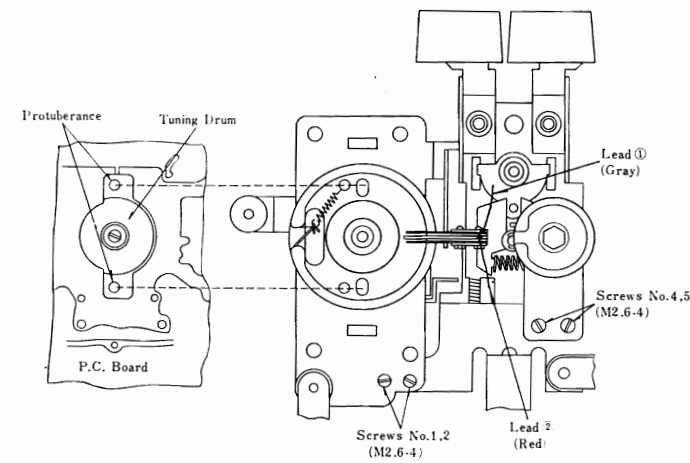

Fig. 4
2. Unsolder leads, ①, ②, as illustrated in Fig. 4.
8. Remove two (2) auto-tuning motor mounting screws, Nos. 1, 2, as illustrated in Fig. 4.
By the above procedure, motor and auto-tuning switch come off completely. When removing auto-tuning switch, remove screws for pulley bracket Nos. 4, 5, as illustrated in Fig. 4.
2. Set the protuberance of the tuning drum to the hole of automatic tuning drum as illustrated in Fig. 4.